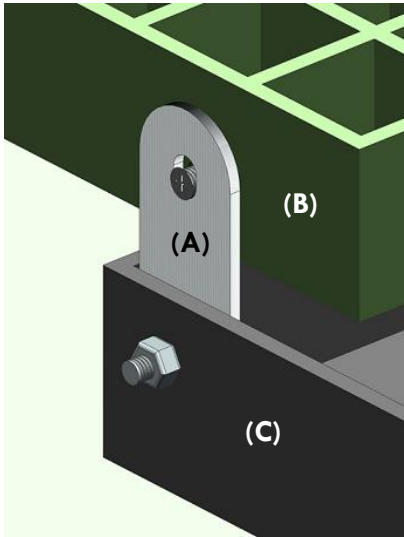

FIGURE 1: HINGING MECHANISM
The hinging mechanism makes use of a hinging plate (A), which has 90° freedom of rotation. The hinging plate is attached to both the insert (B) and the frame (C), as shown in figure 1.